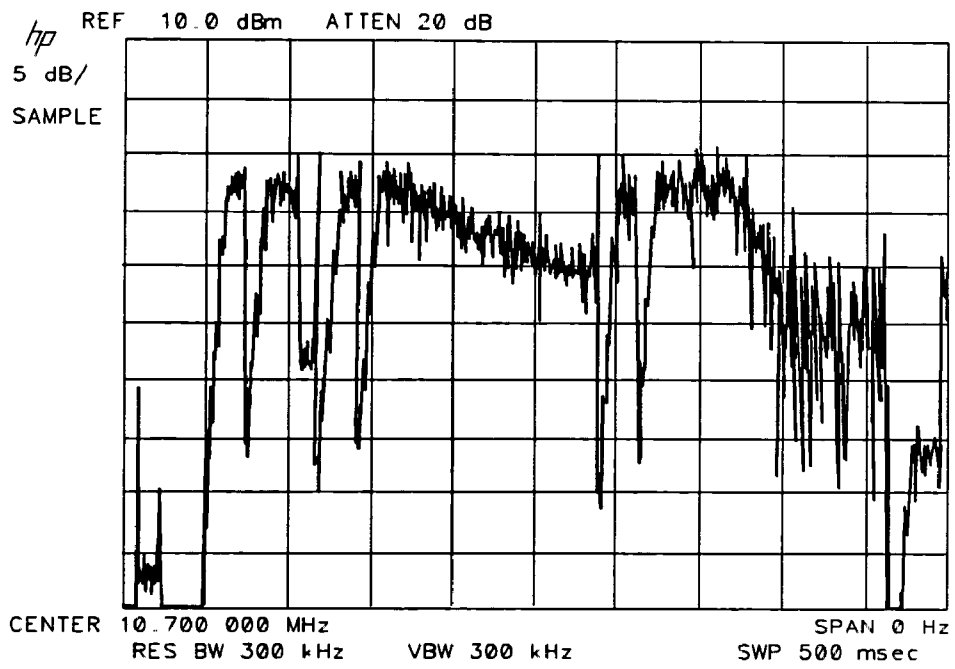

Figure 9-10. Noise with Correct Shape
- **Correct Shape But Noisy:** If the signature resembles Figure 9-10, suspect the Second Crystal Pole output amplifier.